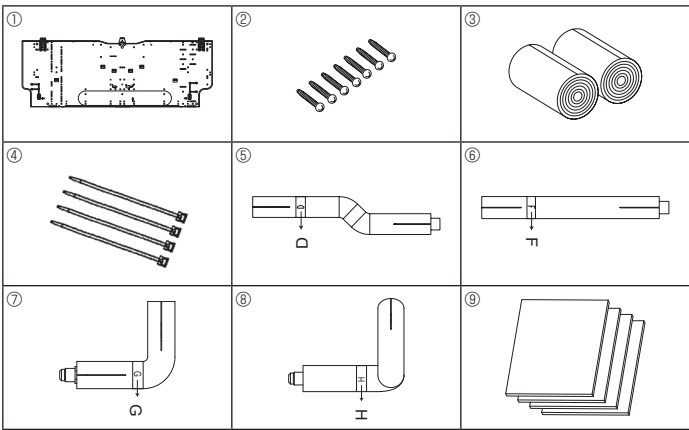

Fig. 3-1
3.1. Check the indoor unit accessories (Fig. 3-1)
- Ⓔ Band Ⓔ in Fig. 3-1
- Ⓕ D-Pipe Ⓕ in Fig. 3-1
- Ⓖ F-Pipe Ⓖ in Fig. 3-1
- Ⓗ G-Pipe Ⓗ in Fig. 3-1
- Ⓘ H-Pipe Ⓘ in Fig. 3-1
- Ⓚ Insulation (3×80×130) (mm), (1/8×3-5/32×5-1/8) (inch) Ⓚ in Fig. 3-1